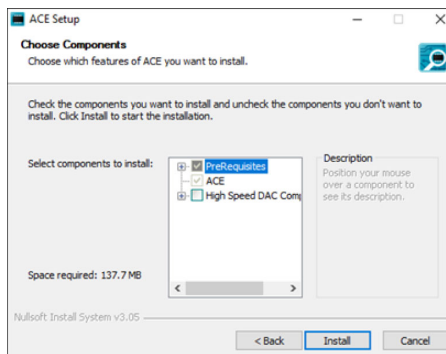

Figure 119. Component Selections Used when Attempting a New Installation of ACE
5. Attempt to reinstall ACE by running the included ACE installer with default components selections as shown in Figure 119.